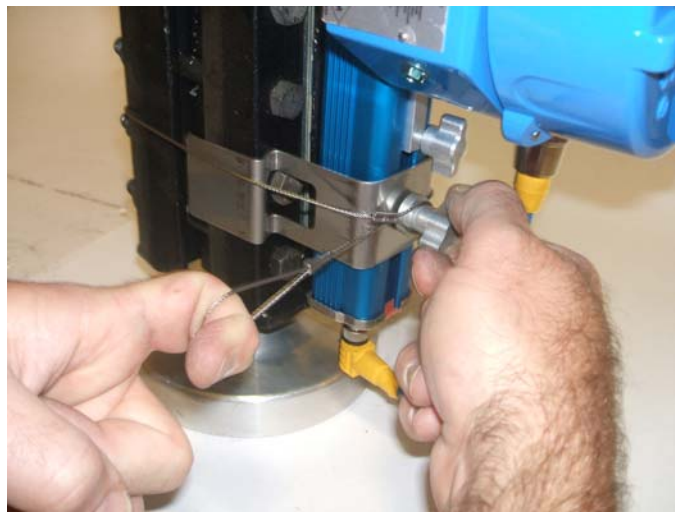

Figure 10
- 1) Align Jerguson® LumaStar™ assembly with rear (side with bolt heads) of gauge. Loosen bracket thumb nuts and adjust the position of the brackets to line up with their respective bolts on the gauge as shown in Figure 10. Tighten the thumb nuts to secure in place. When possible, use the 2nd set of bolts from the edge of the cover plate. Note that all one-section size 7 models and smaller will require the power supply to be remote mounted.